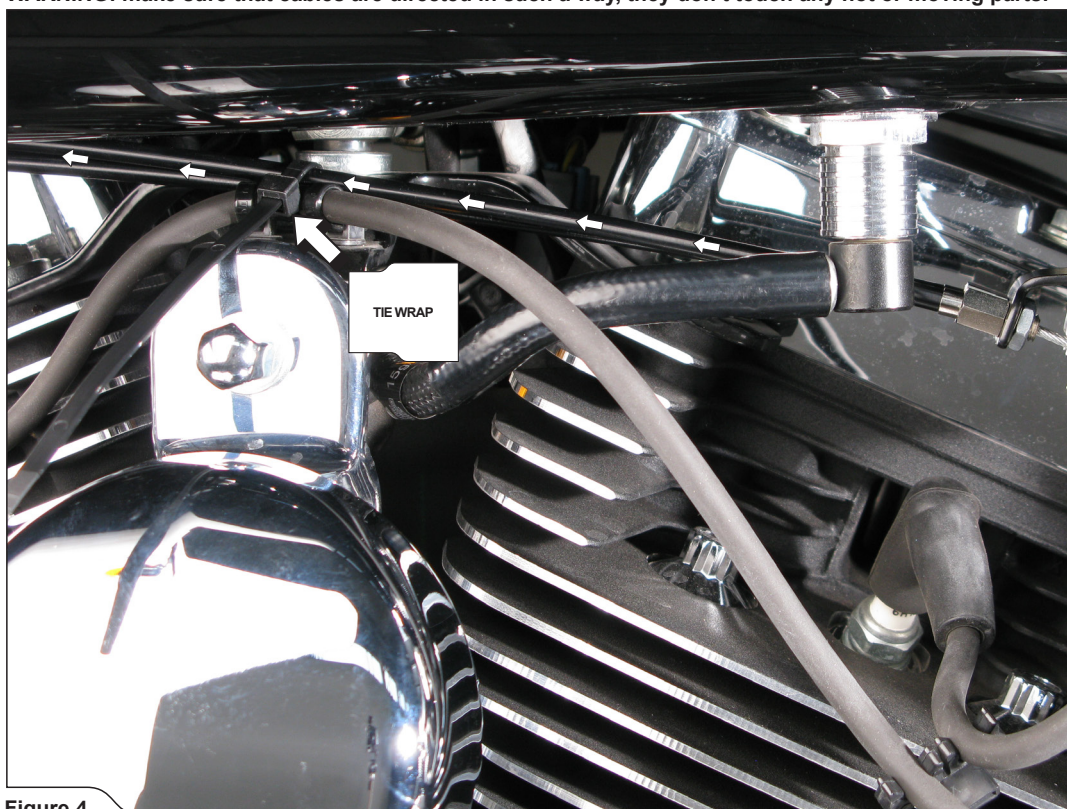

Figure 4
5. Direct and secure (use tie wraps from installation kit) the valve switch cables to the exhaust valves, as shown (Figure 4, 5, 6, 7).